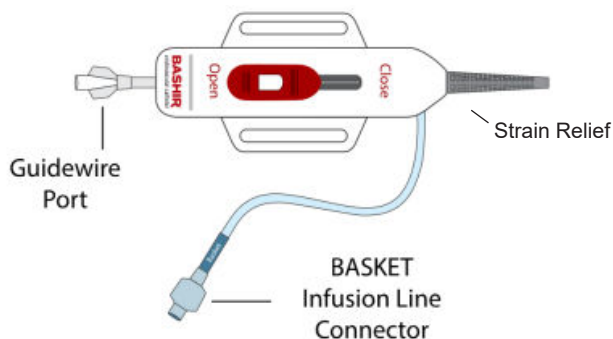

Figure 5. Basket infusion line connector and guidewire port.
8. Attach one 3-way stopcock to the basket infusion line connector (Figure 5, Page 5).
18. Remove the 0.035" guidewire. Attach a second three-way stopcock to the guidewire port and flush the guidewire lumen with heparinized saline (Figure 5).